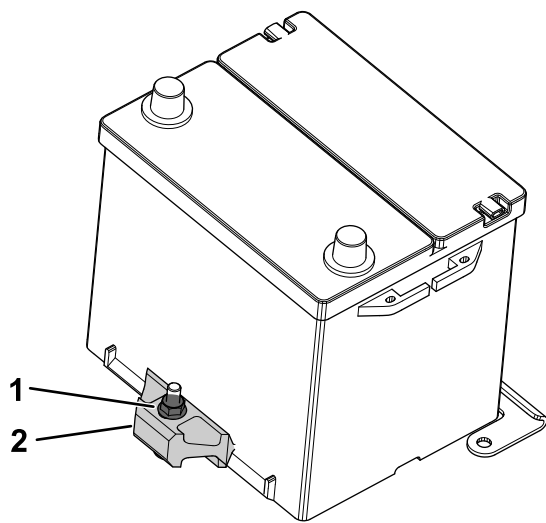

Figure 113
2. Loosen the locknut securing the battery retainer and remove the battery from the tray (Figure 113).
1. Place the battery on the battery tray and secure the battery to the retainer by tightening the locknut (Figure 113).